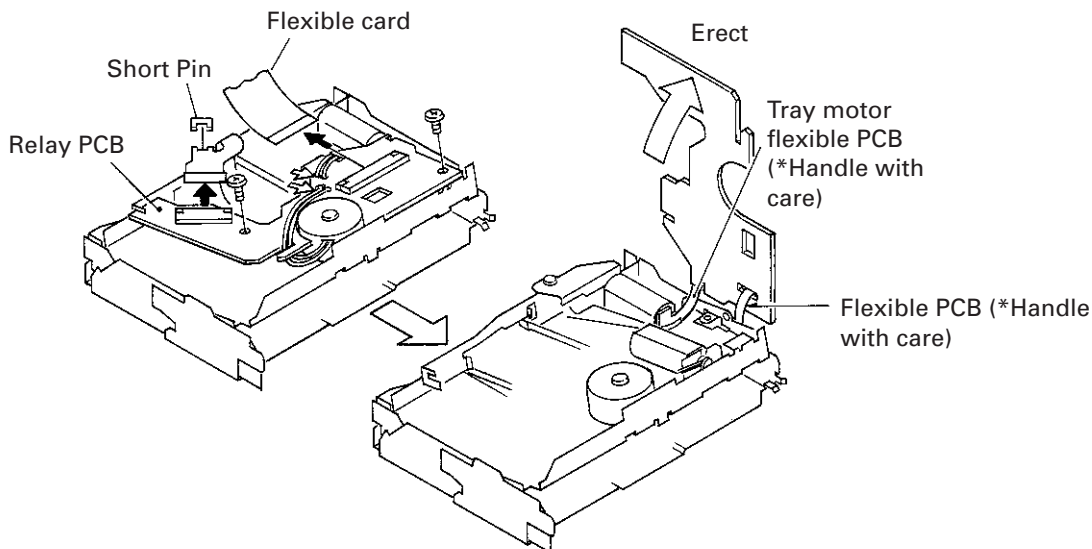

Fig. 22
5. Loosen the two screws. Lift up the relay PCB as shown in Fig. 22.